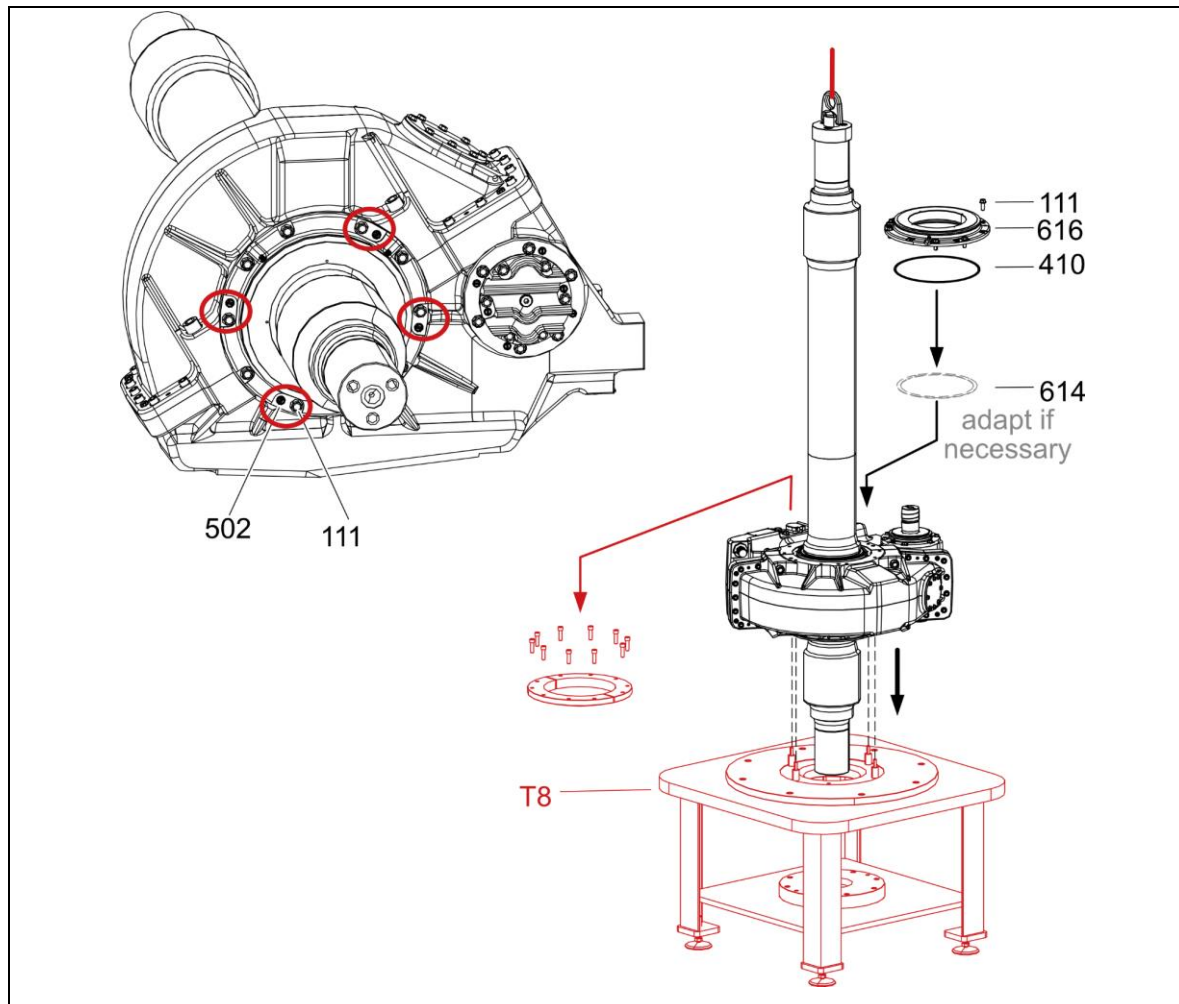

Figure 46: Finish measuring bearing clearance
- 6 Follow the instructions of the adjustment instruction – see section 14.1 and adapt the adjustment sheet (614) if required (see Figure 46).